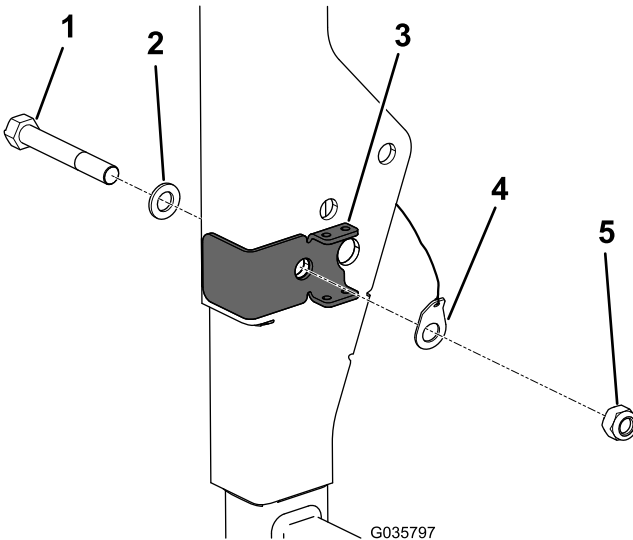

Figure 2
3. Align the hole in the ROPS bracket with the hole in the ROPS and install the new bolt with the existing washer (Figure 2).